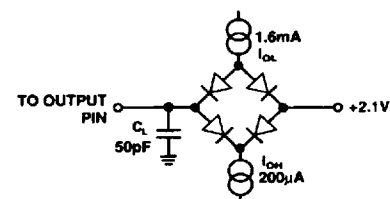

Figure 1. Load Circuit for Access Time
- 3 $t_6$  and  $t_7$  are measured with the load circuits of Figure 1 and defined as the time required for an output to cross 0.8 V or 2.4 V.